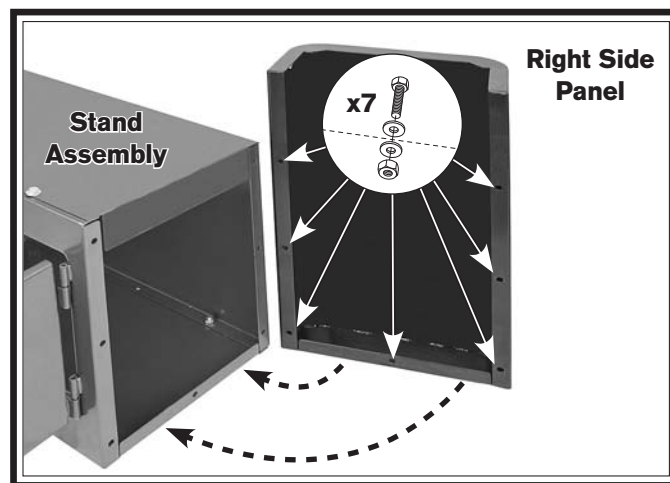

Figure 9. Left side panel assembly.
4. Attach the right side panel (the side without the handle) to the stand assembly as shown in **Figure 9** with (7) M8-1.25 x 15 hex bolts, (7) M8-1.25 hex nuts, and (14) 8mm flat washers.